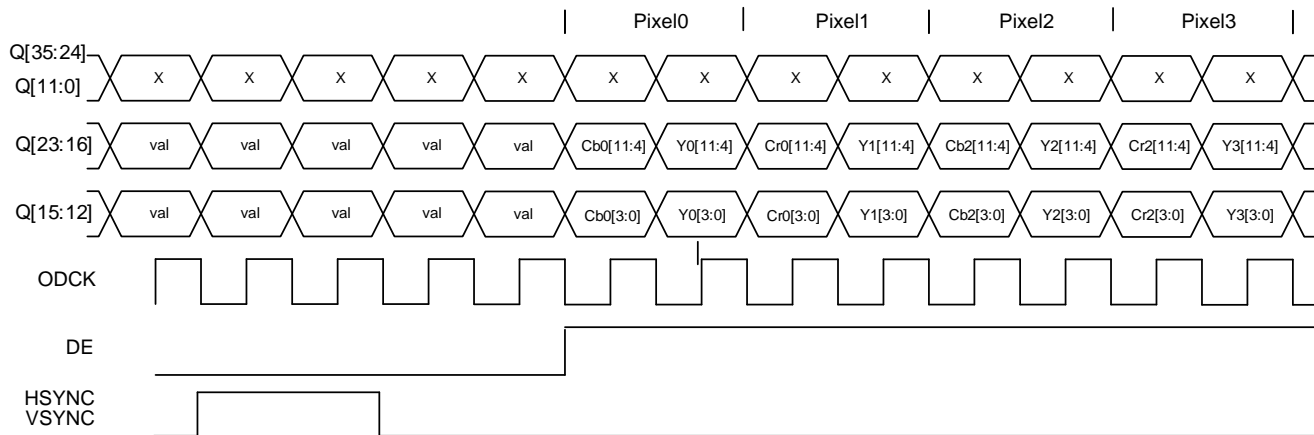

Figure 6.8. YC Mux 4:2:2 Timing Diagram
The video data is multiplexed onto fewer pins than the mapping in Table 6.8, but complete luminance (Y) and chrominance (Cb and Cr) data is still provided for each pixel because the output pixel clock runs at twice the pixel rate. Figure 6.8 shows the 24-bit mode. The 16- and 20-bit mappings use fewer output pins for the pixel data. Note the separate syncs. Figure 6.8 shows OCLKDIV = 0 and OCKINV = 1.